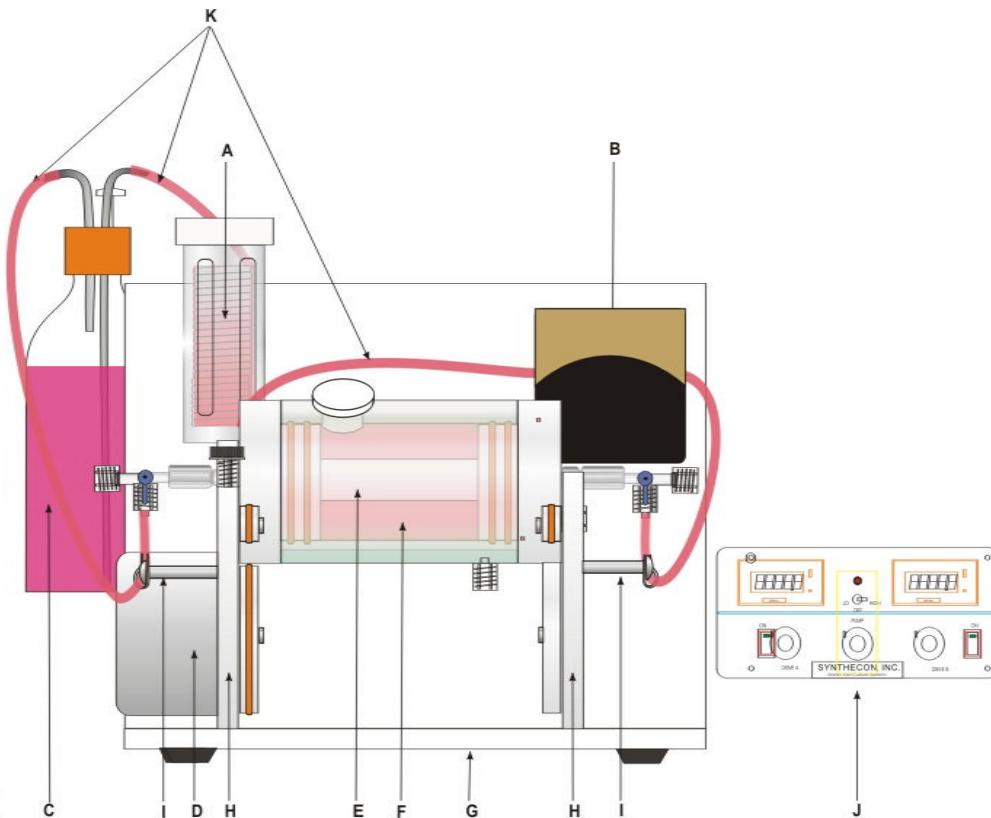

Figure 1
The RCMW™ is composed of the following components shown in Figure 1.
- Do not*** autoclave the rotator base/upright assembly (see Figure 1). Table 1 lists those components that can be autoclaved.
Please refer to Figure 1 for proper identification of parts to facilitate disassembly. Remove the following items to wash and autoclave or for replacement with pre-sterilized components *before initializing* a sterile cell culture in the RCMW
Refer to Figure 1 for guidance in re-assembly.